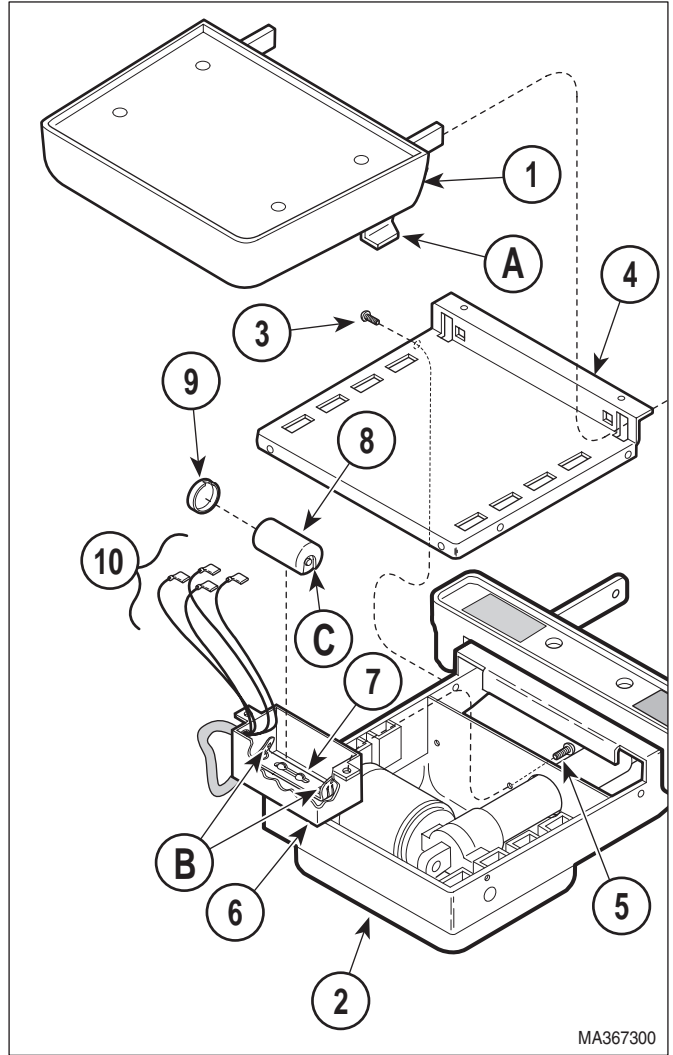

Figure 4-16. Foot Capacitor Removal / Installation
- (1) Unplug table power cord from outlet receptacle.
- (2) Squeeze release latches (A, Figure 4-16) and remove foot board assembly (1) from foot extension weldment (2).
- (3) Remove four screws (3) and front trim (4) from foot extension weldment (2).
- (4) Remove two screws (5) and partially remove foot capacitor cover (6) from foot extension weldment (2).